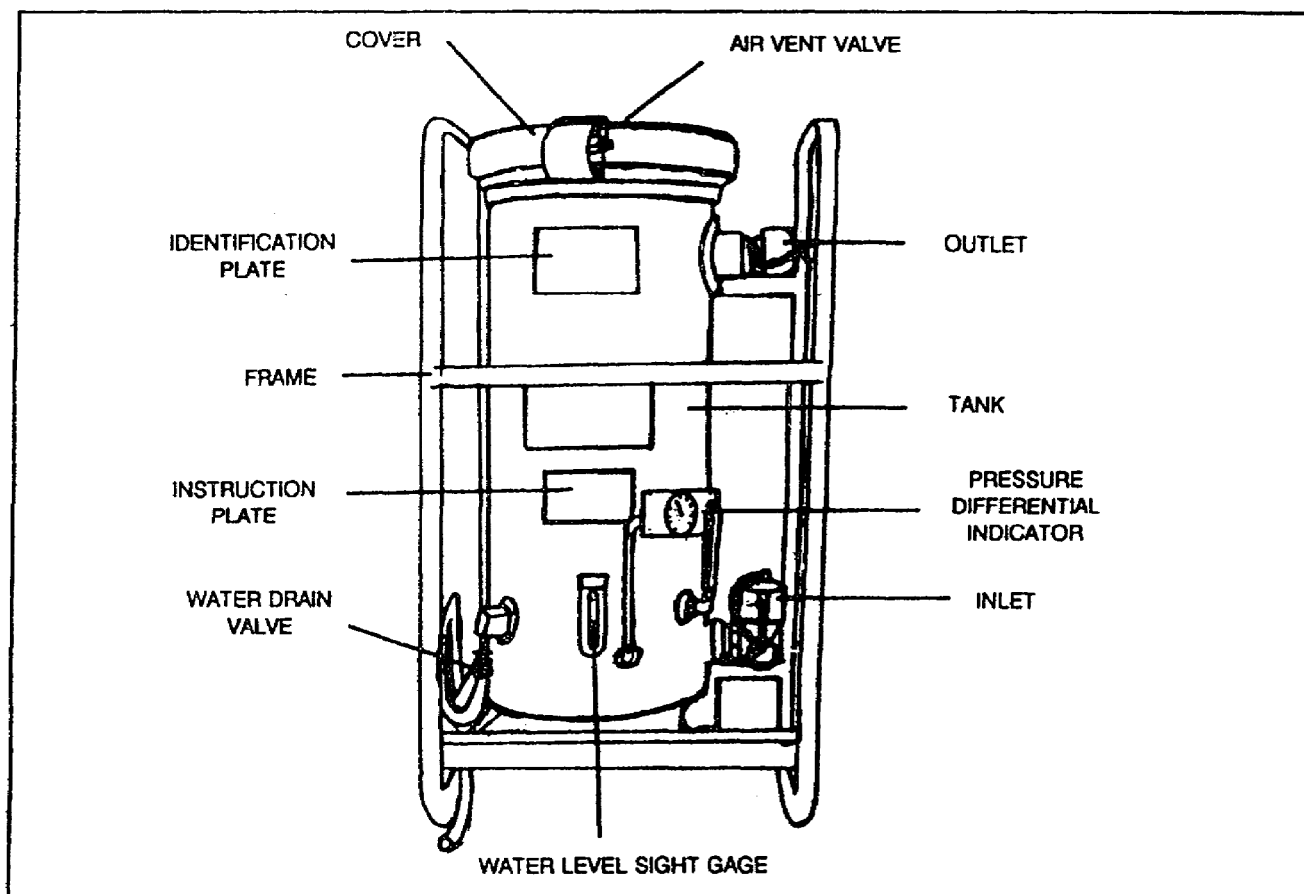

Figure 1-2. Frame-mounted (type 1) 50-GPM filter/separator
a. Description. The 50-GPM filter/separator (shown in Figure 1-2) consists of an aluminum tank with a removable cover, an inlet pipe with dust plug, an outlet pipe with dust cap, a manually operated water drain valve, an air vent valve, a pressure differential indicator, and a sight glass. Installed on a mounting plate near the bottom of the tank are four filter element and canister assemblies. A float ball in the sight glass shows how much water is in the tank. The ball sinks in fuel and floats in water. The pressure differential indicator shows when you should change the filter elements. A reading in the green
b. Use. Use the 50-GPM filter/separator with the 50-GPM pumping assembly in refueling systems at airfields and with equipment to service ground vehicles. The type I filter/separator (shown in Figure 1-2) is frame-mounted. Employ it for open field use. The type II model has no frame. Employ it with the tank and pump unit.